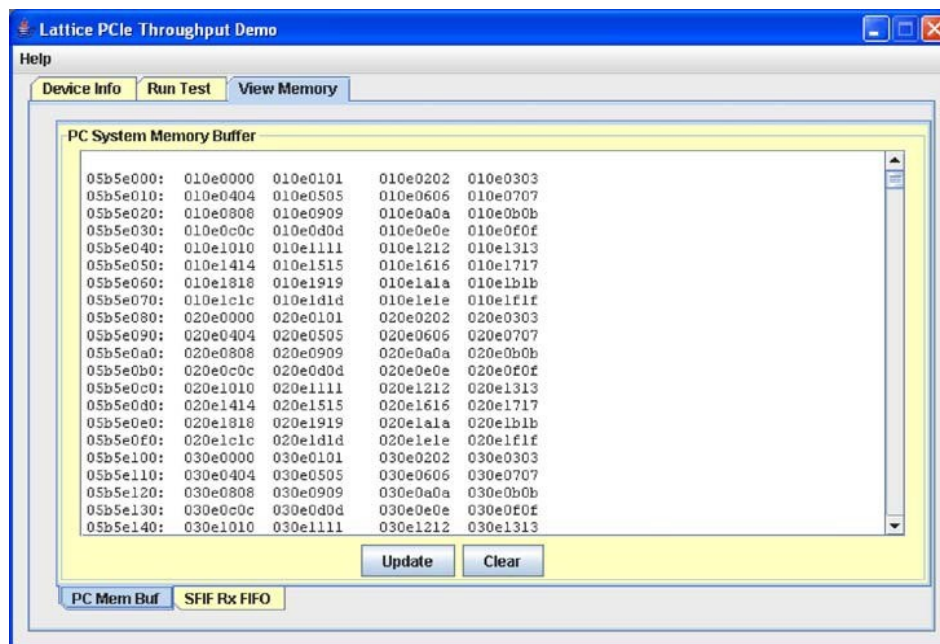

Figure 7.4. Throughput Demo View Memory Page
- Click on the **View Memory** tab to open the View Memory page. Refer to Figure 7.4. Notice that this page allows you to inspect the memory contents of the PC system memory buffer and the SFIF rx_fifo to check for data integrity. See the descriptions of these sub tabs in Table 7.3.